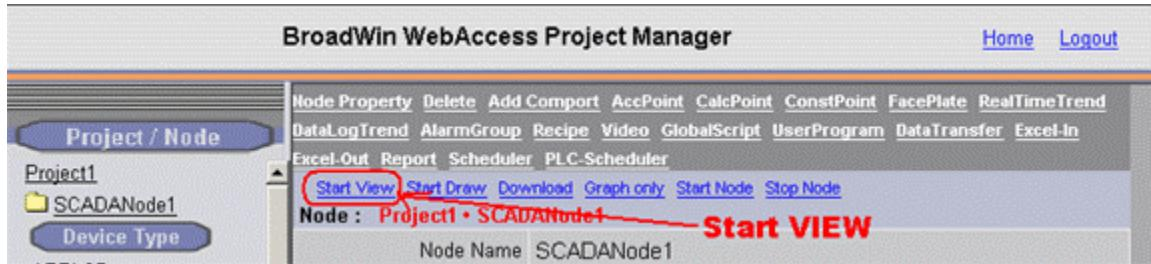

Figure 3-12 Start VIEW from Project Manger
8. Select Start View (Figure 3-12).